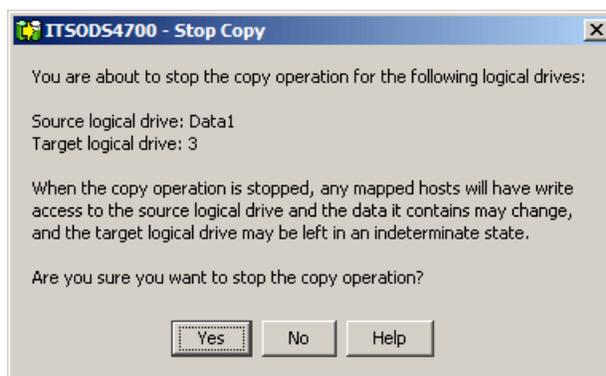

Figure 9-21 Stop Copy dialog
4. The Stop Copy dialog is displayed (Figure 9-21). Read the information. Click **Yes** to proceed. The VolumeCopy is stopped.